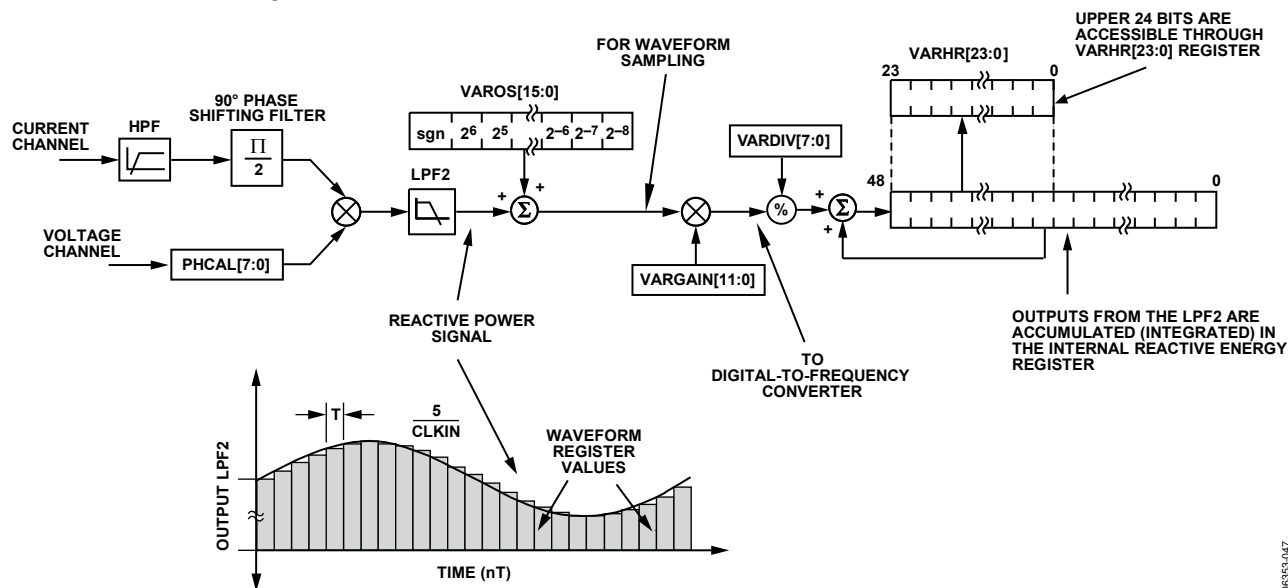

Figure 72. Reactive Energy Calculation
The instantaneous reactive power signal  $q(t)$  is generated by multiplying the voltage and current channels. In this case, the phase of the current channel is shifted by 90°. The dc component of the instantaneous reactive power signal is then extracted by a low-pass filter to obtain the reactive power information (see Figure 72).
Figure 72 shows the signal processing chain for the ADE7169/ADE7569 reactive power calculation. As explained in the Reactive Power Calculation (ADE7169/ADE7569) section, the reactive power is calculated by applying a low-pass filter to the instantaneous reactive power signal. Note that, when reading the waveform samples from the output of LPF2, the gain of the reactive energy can be adjusted by using the multiplier and by writing a twos complement, 12-bit word to the var gain register (VARGAIN[11:0], Address 0x1E). Equation 25 shows how the gain adjustment is related to the contents of the var gain register.
The ADE7169/ADE7569 also incorporate a reactive power offset register (VAROS[15:0], Address 0x21). This signed, twos complement, 16-bit register can be used to remove offsets in the reactive power calculation (see Figure 72). An offset can exist in the reactive power calculation due to crosstalk between channels on the PCB or in the IC itself. The offset calibration allows the contents of the reactive power register to be maintained at 0 when no power is being consumed.
The discrete time sample period (T) for the accumulation register in the ADE7169/ADE7569 is  $1.22 \mu\text{s}$  ( $5/\text{MCLK}$ ). As well as calculating the energy, this integration removes any sinusoidal components that may be in the active power signal. Figure 72 shows this discrete time integration or accumulation. The reactive power signal in the waveform register is continuously added to the internal reactive energy register.
As shown in Figure 72, the reactive power signal is accumulated in an internal 49-bit, signed register. The reactive power signal can be read from the waveform register by setting the WAVMODE register (Address 0x0D) and setting the WFSM bit (Bit 5) in the Interrupt Enable 3 SFR (MIRQENH, Address 0xDB). Like the current and voltage channel waveform sampling modes, the waveform data is available at sample rates of 25.6 kSPS, 12.8 kSPS, 6.4 kSPS, and 3.2 kSPS.